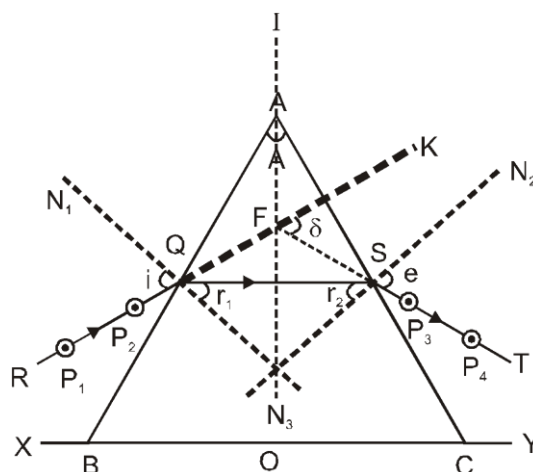

Fig. 3
2. Draw a straight line XY nearly at the centre of the sheet parallel to its length. Mark points marked as O at suitable spacing on this line XY and draw normal to the line XY at points O as shown in Fig. 3 Draw straight line PQ corresponding to the incident rays that are drawn at angle of incidence ranging from 30° to 60° , i.e., for angles of 30° , 40° , 50° and 60° using a protractor.
3. Place the prism with one of its refracting surfaces on the line XY and trace its boundary ABC as shown in Fig. 3.
8. Repeat the steps (3 to 7) for different values of angle of incidence (Fig.3) and measure the corresponding angles of deviation δ . Take at least seven values of angle i ranging from $30^\circ - 60^\circ$.